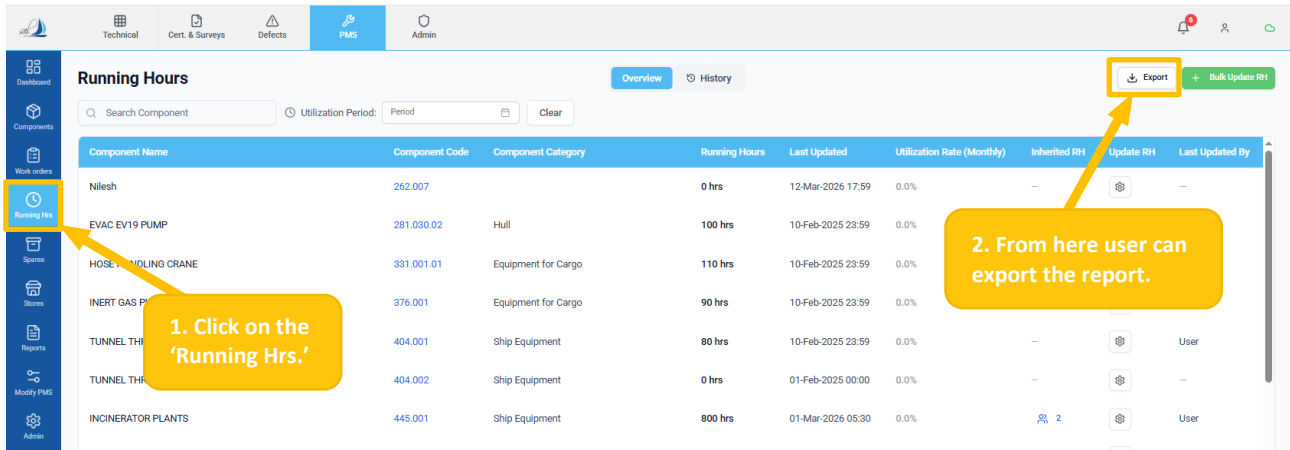

Figure 48
- Click on the 'Running Hrs' sub – sub module. (Ref Figure 48)
- Click the 'Export' button to download the running hours reports in Excel format. (Ref Figure 48)